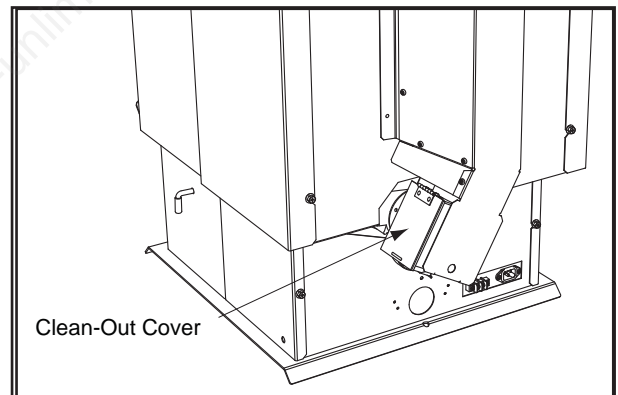

Figure 15.1
- b. Open the clean-out cover. **Figure 15.1**.